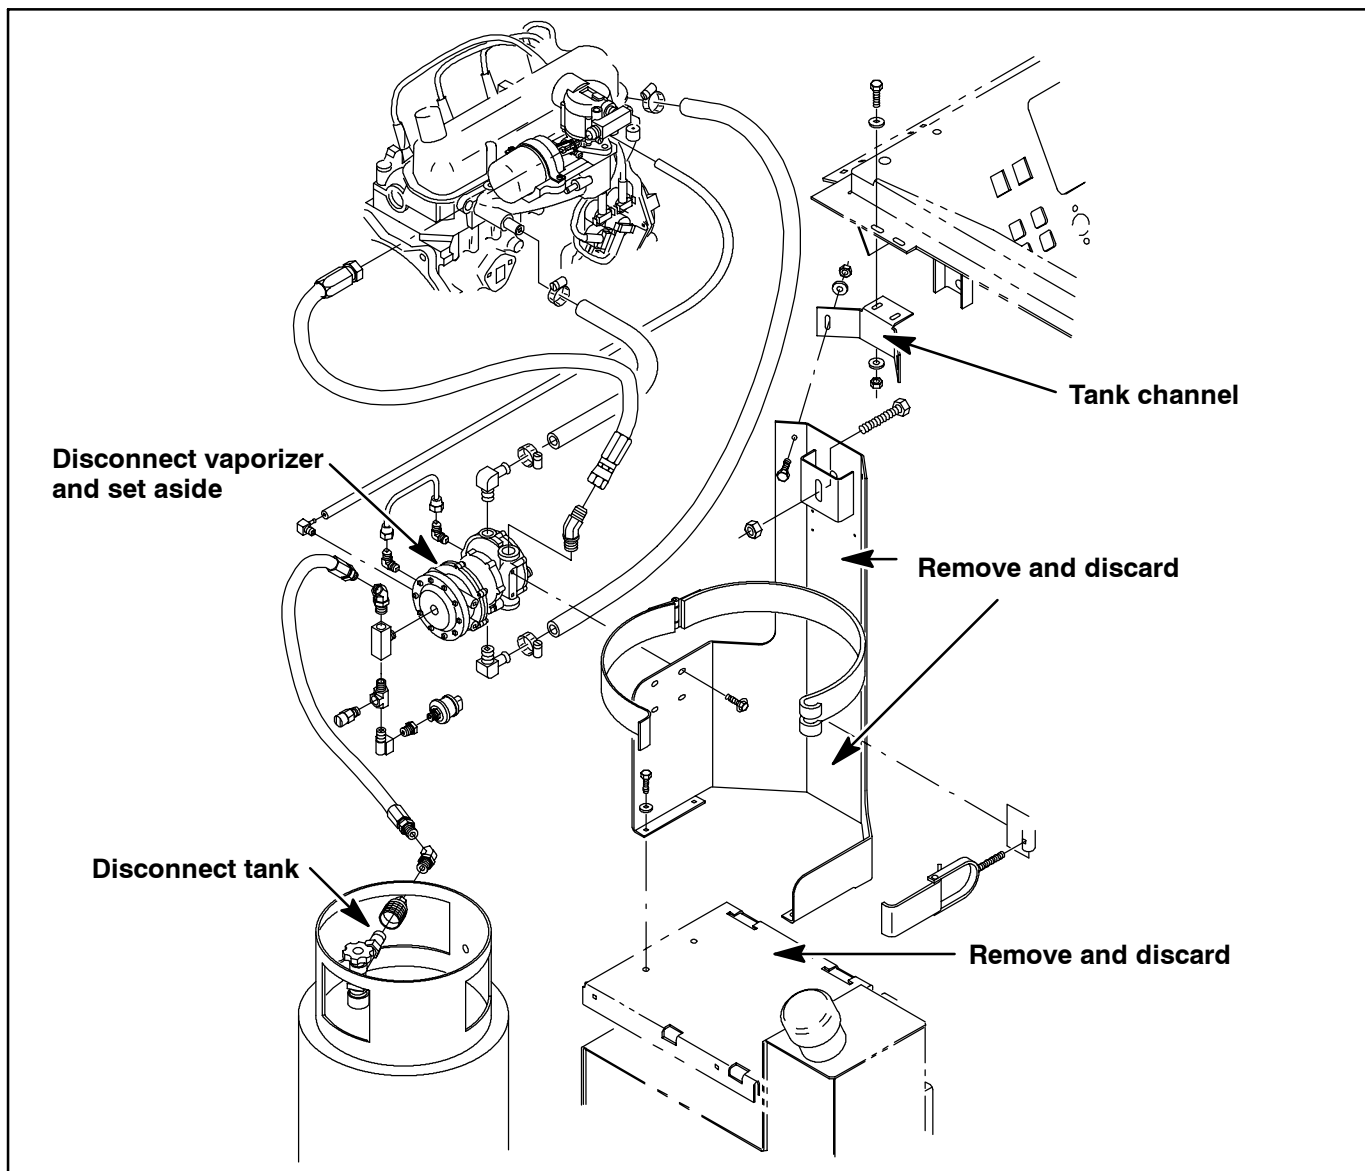

FIG. 3-Fuel Tank and Vaporizer Group, LPG
1. Disconnect and remove LP gas tank from LPG tray. Set the tank aside. (Refer to FIG. 3)
2. Remove vaporizer from LPG tray. Set vaporizer and mounting hardware aside. (Refer to FIG. 3)
3. Disconnect old LPG tray from tank channel. Set the mounting hardware aside. (Refer to FIG. 3)
4. Remove and discard the old LPG tray. (Refer to FIG. 3)
13. Reconnect the LPG tank to the LP lines and clamp the tank in the LPG tray (7). (Refer to FIG.3)